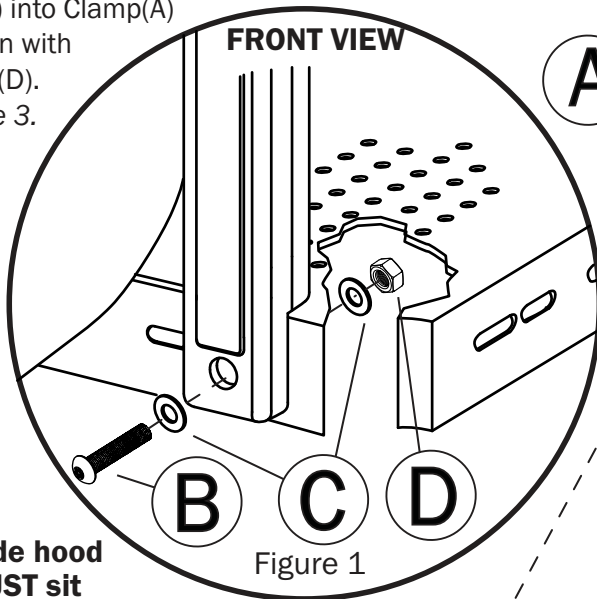

Figure 1
1. From front side of Slide Hood, insert Bolt(B) and Flat Washer(C) into Slide Hood, through deck and secure with Flat Washer(C) and Lock Nut(D). See Figure 1.